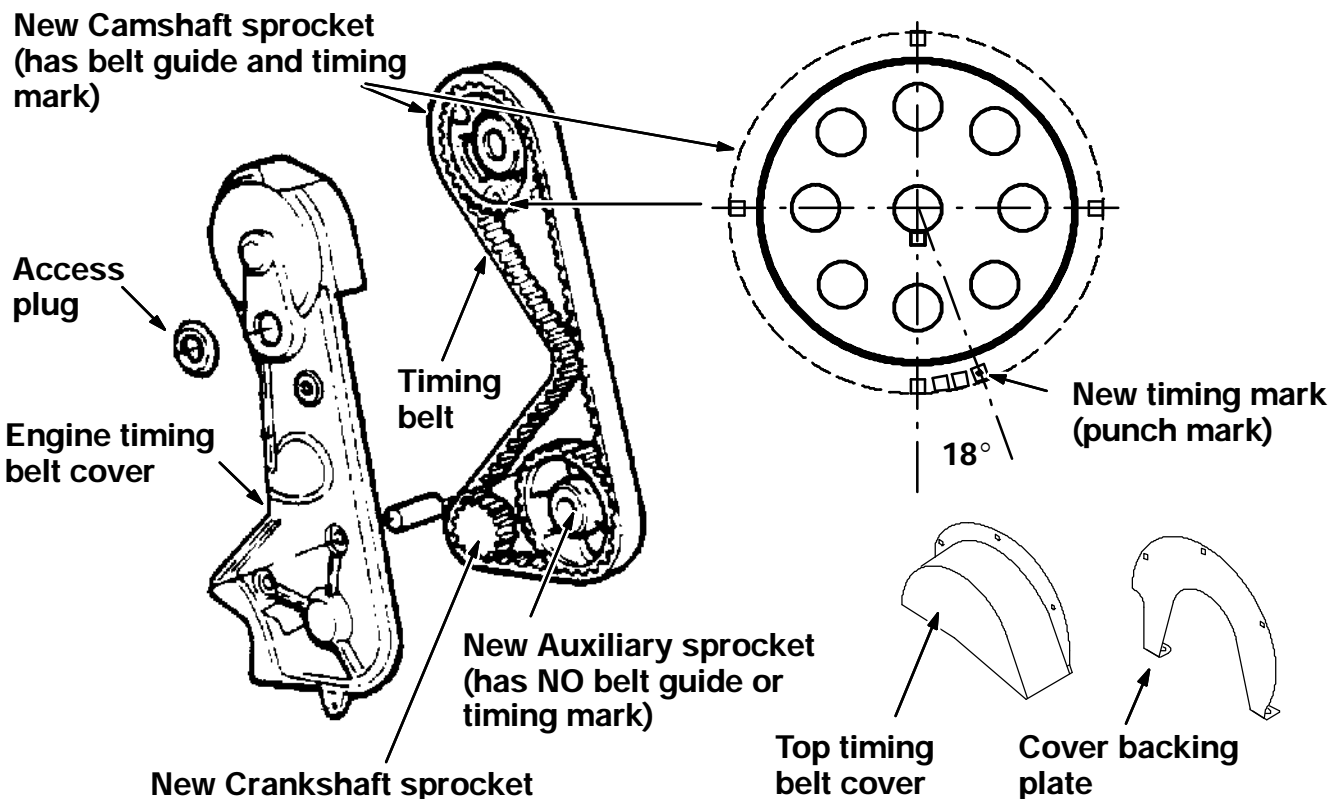

FIG. 2 - Timing Belt Covers
NOTE: If the engine is equipped with a smaller top timing belt cover; it needs to be removed before the larger timing belt cover can be removed. (Refer to Fig. 2 and 4)
6. Remove the three M6 hex screws and nyloc nuts holding the smaller top cover to the engine. Remove and retain the smaller cover. (Refer to Fig. 2 and 4)
9. Remove the five hex screws holding the large timing belt cover to the engine. Remove and retain the large cover. (Refer to Fig. 2)
11. Remove the old timing belt, camshaft sprocket, auxiliary sprocket, and crankshaft sprocket. **Clean any dirt that has accumulated in the timing belt area.** (Refer to Fig. 2 & 3)
3. Remove the distributor cap and set the distributor rotor to number 1 firing position by turning the auxiliary shaft sprocket. Reinstall the distributor cap. (Refer to Fig. 2 and 4)
10. Reinstall the timing belt cover and the five hex screws. (Refer to Fig. 2)
11. Reinstall the small, top cover on the timing belt cover. Hand tighten the three M6 hex screws and nyloc nuts. (Refer to Fig. 2 and 4)